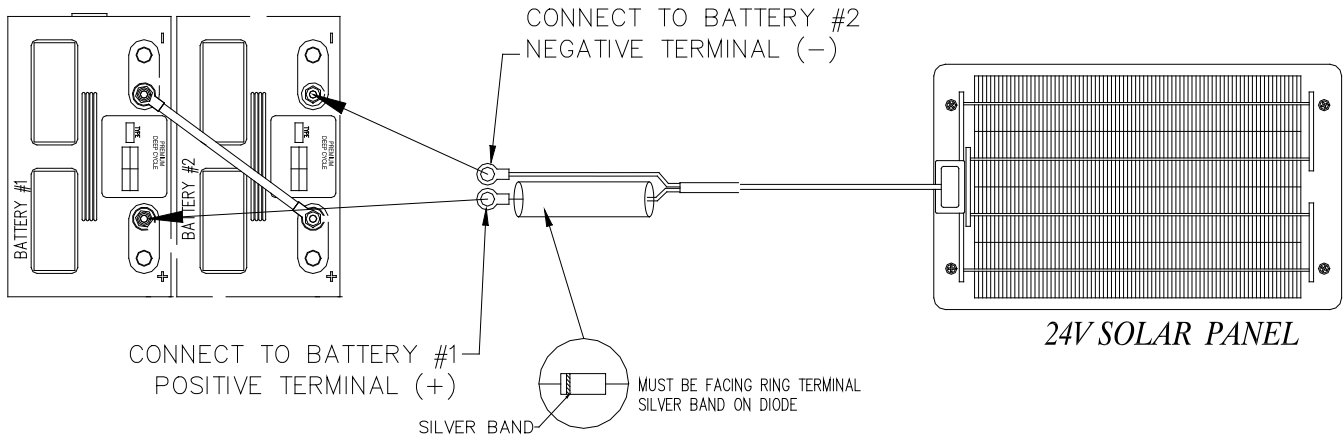

Figure 2-2
1. Refer to figure 2-2. Attach the white solar panel lead to the positive battery terminal, and the black lead to the negative terminal. Tighten each wing nut with a pair of pliers, as even a slightly loose connection can cause the battery terminals to heat up. Keep battery terminals clean with a corrosion protective coating.